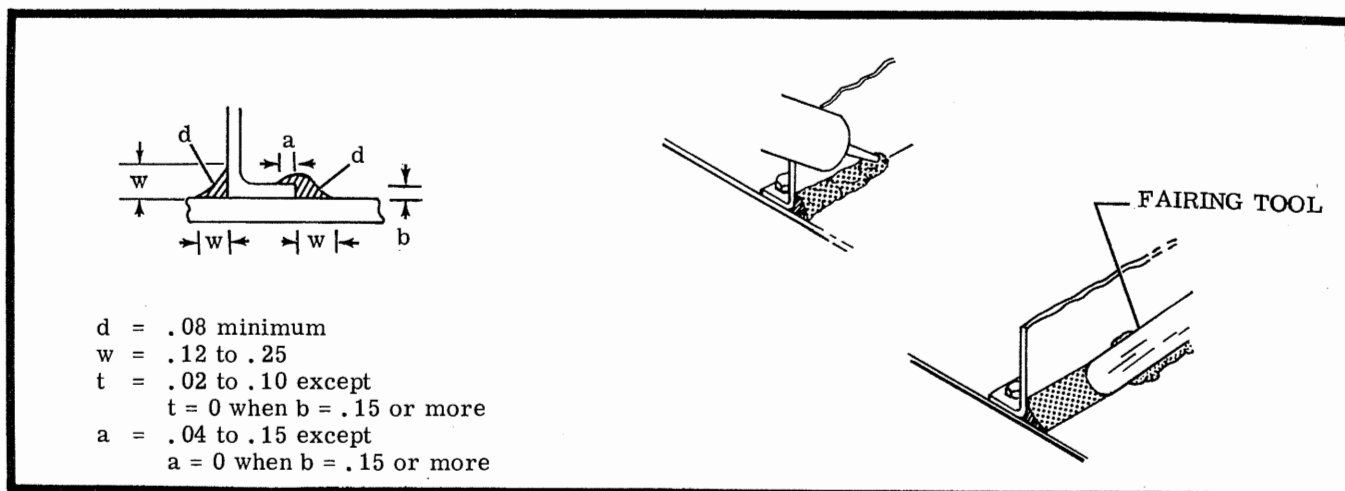

Figure 16-14. Fillet Sealing
c. Fillet shapes and dimensions should conform to dimensions given in figure 16-14 as near as possible.